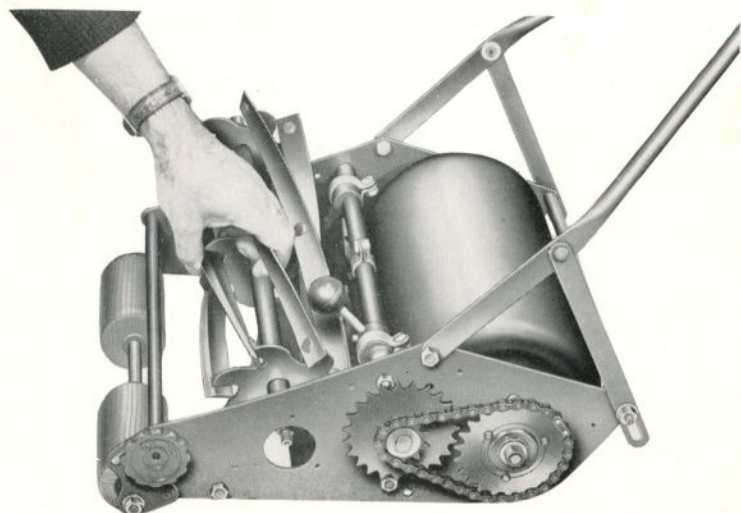

FIG. 3
*The end of the cutter shaft on the opposite side should now be tapped until it passes through clear of the bearing ; the housing will then come out and the cutter can be removed. See Fig. 3. In taking out the rotary cutter it is of great importance that the cutter shaft centres should not be damaged by the use of steel punches, as damaged centres can cause the cutters to be ground out of truth.*
- (a) Assemble the cutter between the frames by holding with the left hand and passing the threaded end of the shaft first through the large hole in the transmission side frame. See Fig. 3.